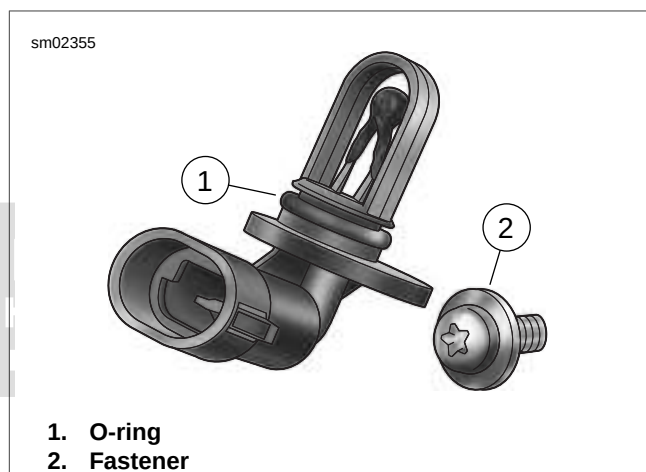

Figure 4-12. Intake Air Temperature Sensor
1. See Figure 4-12. Inspect O-ring (1) in groove of intake air temperature sensor for cuts, tears or signs of deterioration. Install **new** O-ring if necessary.
3. See Figure 4-12. Install fastener (2) and tighten to 15-20 in-lbs (1.7-2.3 Nm).